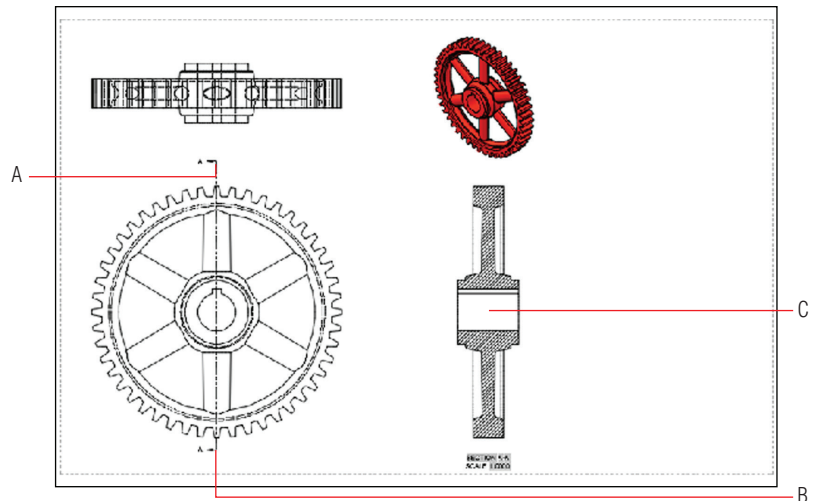

FIGURE 18.24 Creating a section of the base view
10. Toggle on Ortho in the status bar. Click points A and B shown in Figure 18.24 to draw a section cut line and press Enter. Click point C to locate the section view and press Enter to end the VIEWSECTION command.